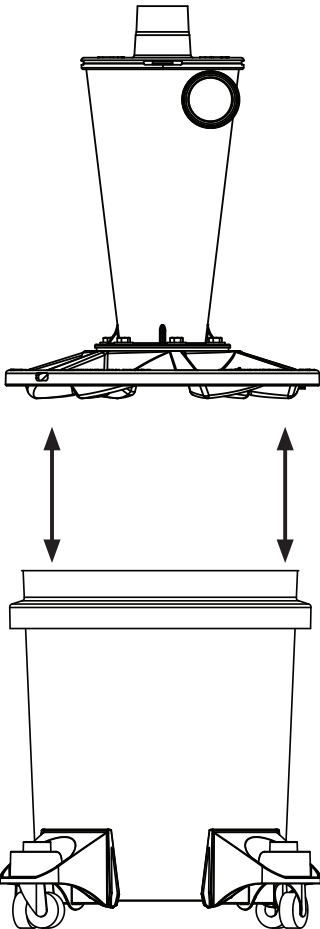

FIG. 8a
- 8 Snap the Cyclone (A) and Lid assembly onto the Bucket (F) and ensure it's fully seated [FIG. 8a]. The lid will make an audible click as it seals close.